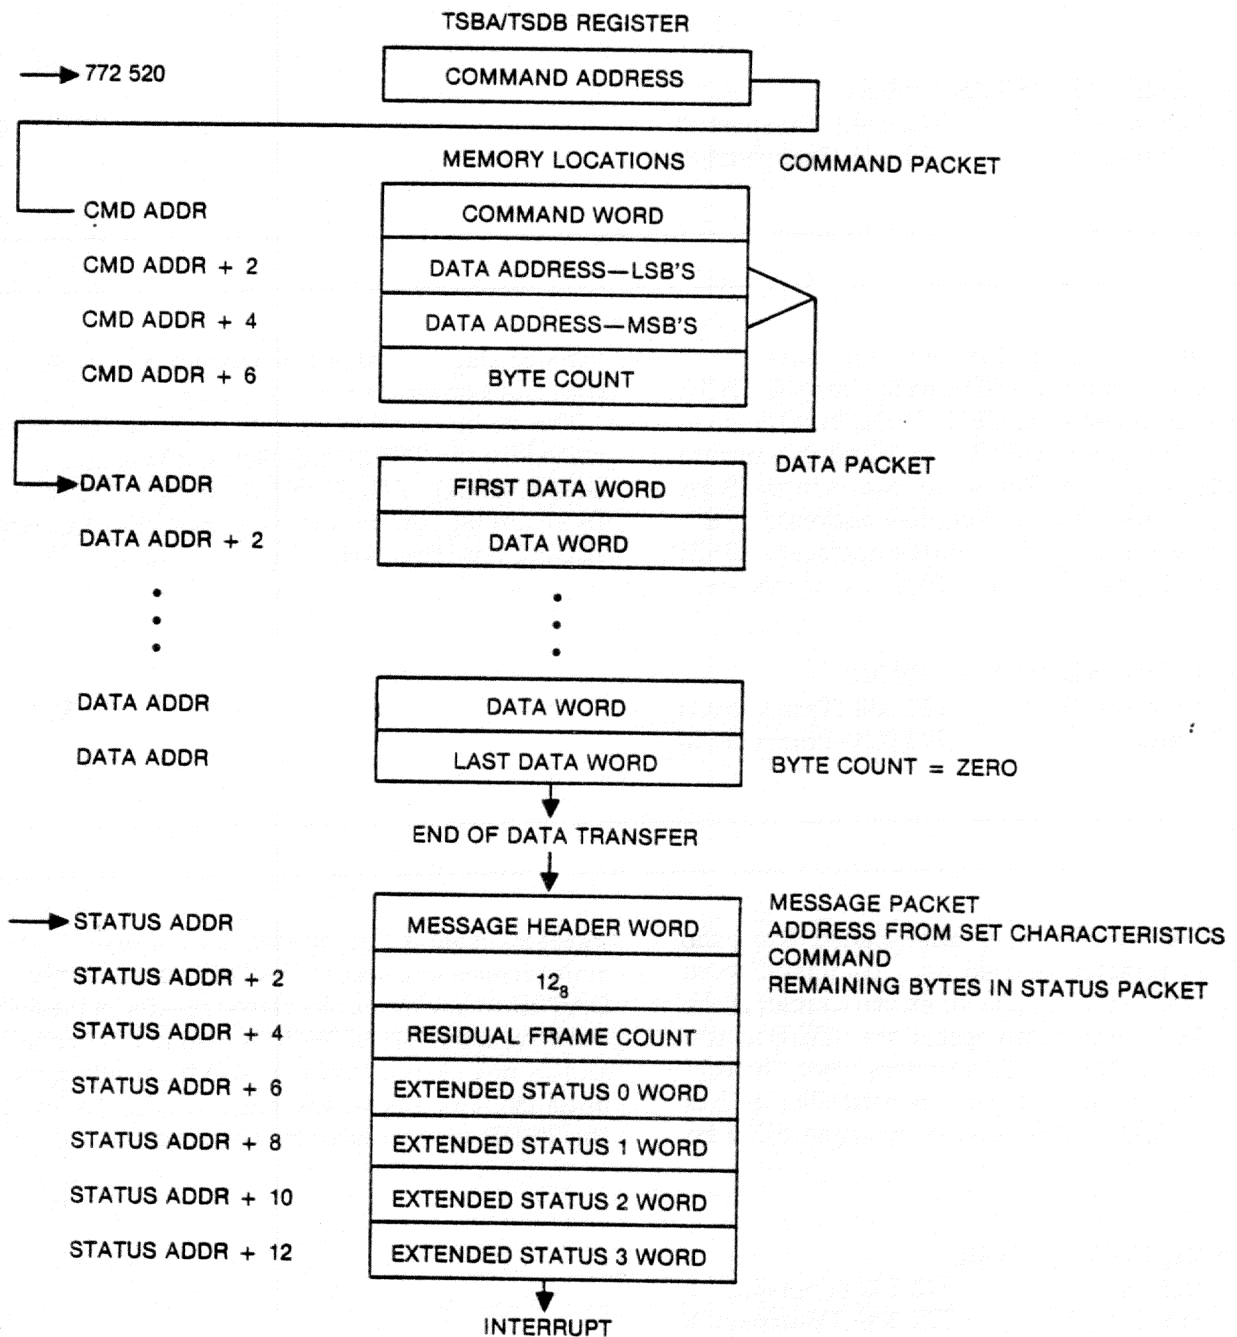

Figure 4-2. Read/Write Command Sequence
5. TSBA contents access command word—read or write command. Read/write command packets comprise four successive memory locations (eight bytes) that contain (see Figure 4-2):